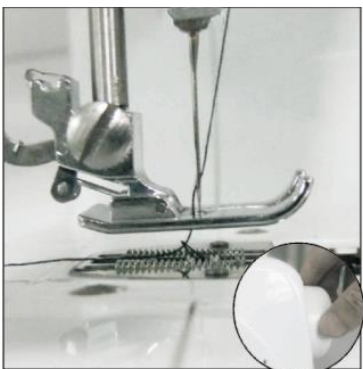

Fig.9
- 4) Hold the end of the upper thread with one hand, and turn the hand wheel counterclockwise with the other hand, the needle thread will pick up the bobbin thread and pull it up through the hole under the needle (Fig.9).